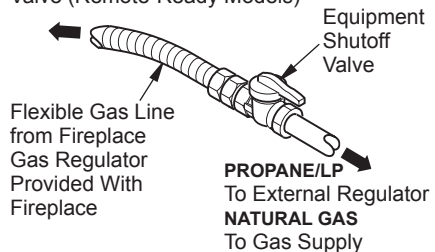

Figure 25 - Attaching Flexible Gas Line to Equipment Shutoff Valve
3. Apply pipe joint sealant lightly to male threads of gas connector attached to flexible gas line/equipment shutoff valve (see Figure 25).